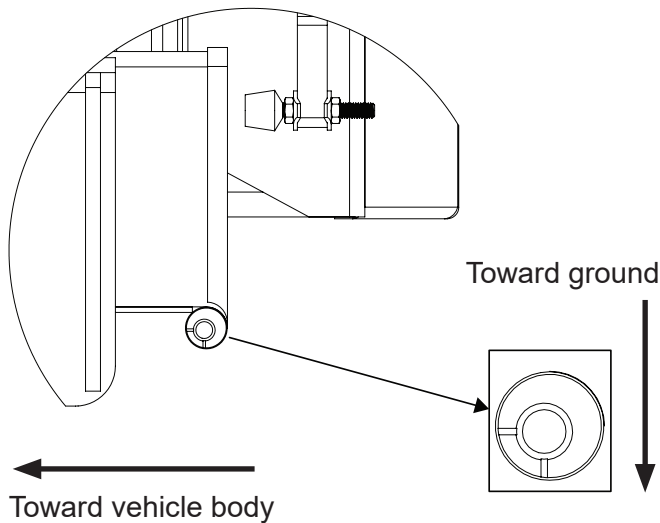

Figure 5
9. Place one bushing against each tube opening, orienting the bushing so one machined mark faces down to the ground and the other faces toward the vehicle body (Figure 5).